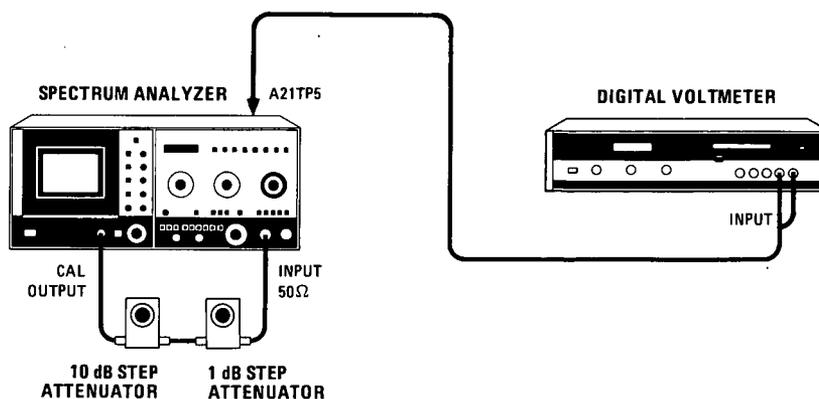

Figure 5-16. Log Amplifier Adjustment Test Setup
- b. Reconnect power cord, set LINE switch ON, connect equipment as shown in Figure 5-16, and set 8565A controls as follows: